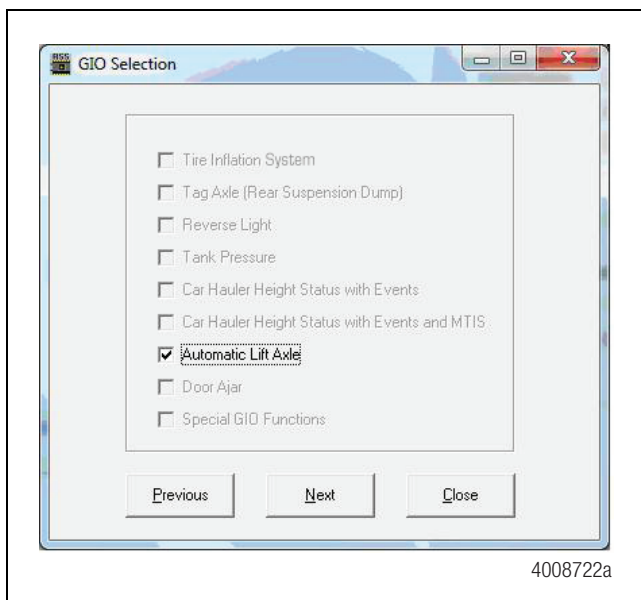

Figure 8
3. The **GIO Selection** screen appears. Click the **Lift Axle** check box. Ensure that a check appears in the box. Then press the **Next** button at the bottom of the screen. Figure 8.